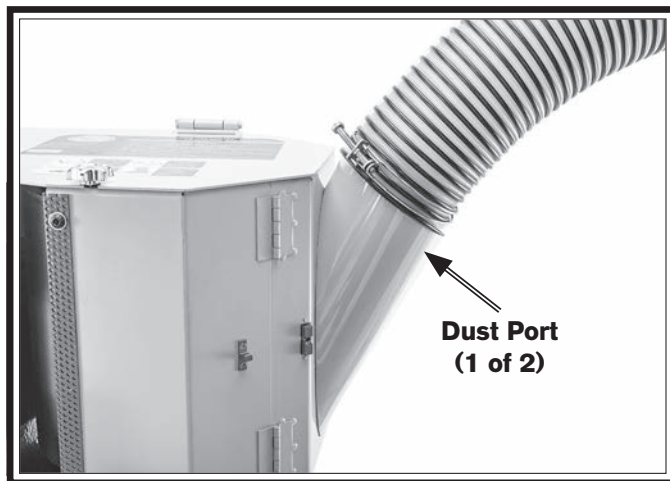

Figure 25. Dust hose connected to dust port.
1. Fit (2) 4" dust hoses connected to a dust collector over dust ports and secure in place with hose clamps (see **Figure 25**).